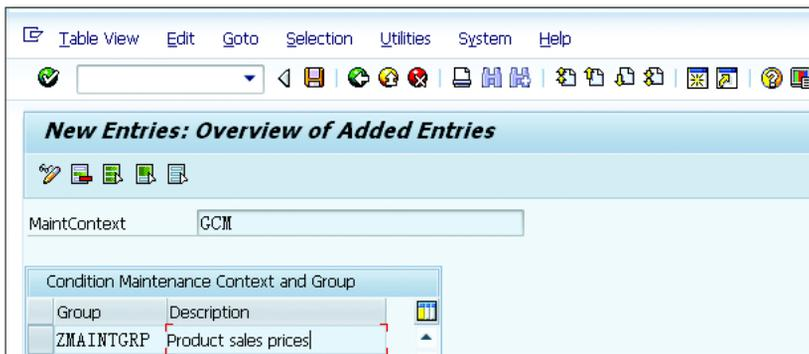
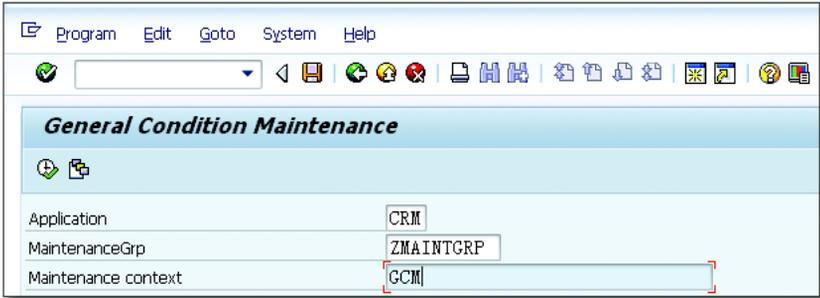

Figure 2.47 Defining Maintenance Groups for Context
Figure 2.48 General Condition Maintenance
3. The condition maintenance group for the context assignment is necessary to maintain the condition records in SAP CRM. To add the maintenance group created to the maintenance context GCM, follow the menu path, SPRO • CUSTOMER RELATIONSHIP MANAGEMENT • MASTER DATA • CONDITIONS AND CONDITION TECHNIQUE • CONDITION TECHNIQUE: BASICS • DEFINE MAINTENANCE GROUPS FOR CONTEXT. Figure 2.47 shows the assignment of the condition maintenance context to the ZMAINTGRP group.
4. Run Transaction /SAPCND/GCM (Maintain Conditions), and enter the maintenance group created in Figure 2.47 to view the condition table entries for the condition type listed in the configuration steps for the maintenance group. Figure 2.48 shows the initial GENERAL CONDITION MAINTENANCE screen. You need